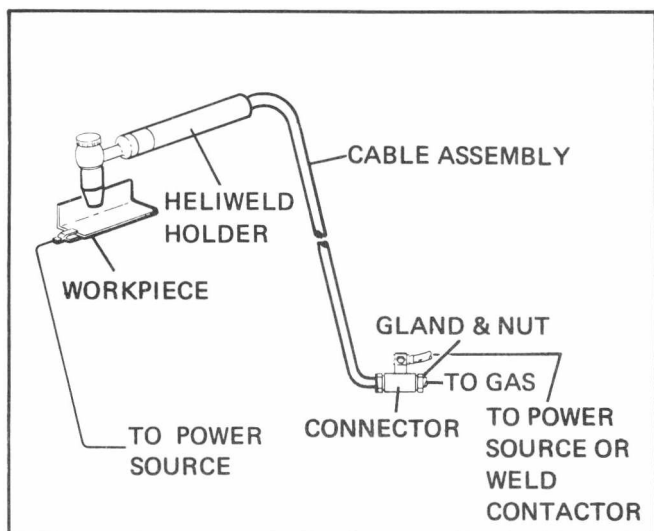

Figure 2. Interconnections
- Attach a gland (stock no. 803 0245) with a nut (stock no. 803 0255) to the hose (Figure 2).